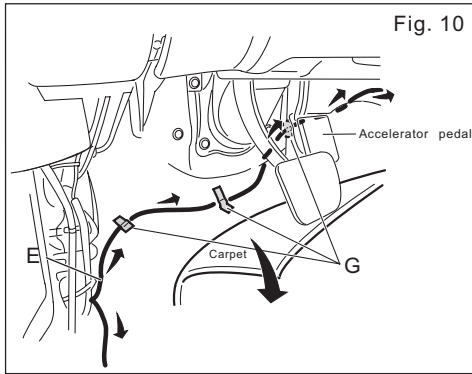

Fig. 10
- h) Route a long harness from the driver side to the passenger side through the center console under floor carpet. Shown in Fig. 10.
- i) Attach the long Harness E to floor using the Flat Wire Protector G . (3 pieces) . See in Fig. 10.